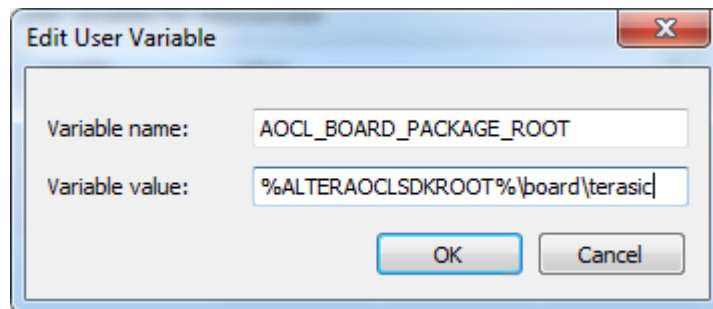

Figure 2-4 Setup AOCL_BOARD_PACKAGE_ROOT Environment Variable
5. In the popup **New User Variable** dialog as shown in **Figure 2-4**, type "AOCL_BOARD_PACKAGE_ROOT" in the **Variable name** edit box and type "%ALTERAOCLSDKROOT%\board\terasic" in the **Variable value** edit box.